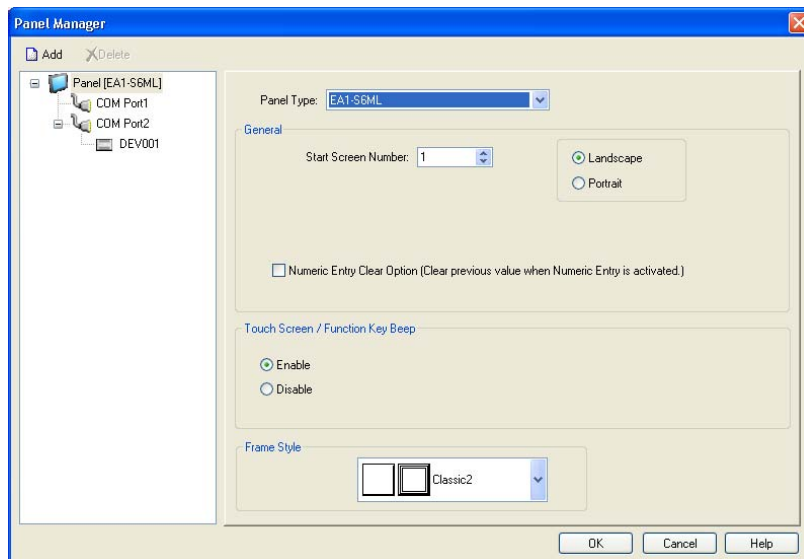

Figure 3
- the panel manager screen in the programming software (Figure 3),